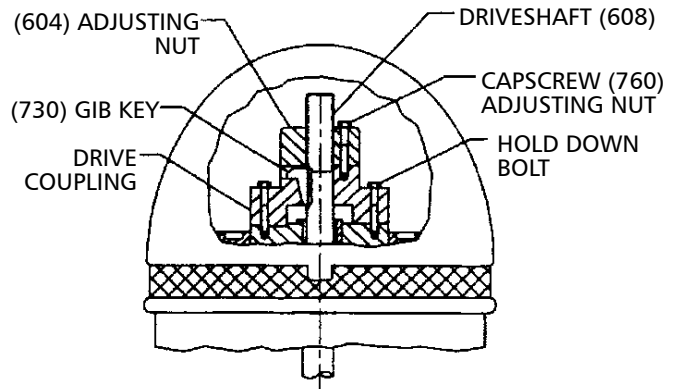

Figure 11
NOTE: There are five holes in the adjusting nut and only four in the motor coupling. See Figures 11.
3. For Open Impellers, Align hole "A" in the adjusting nut (604) and hole "C" in the driver coupling (See Figure 11) or whatever similar holes are in like position. If care is exercised, this will give an initial impeller clearance of 0.001" to 0.003" depending on shaft size or the pitch of the thread.